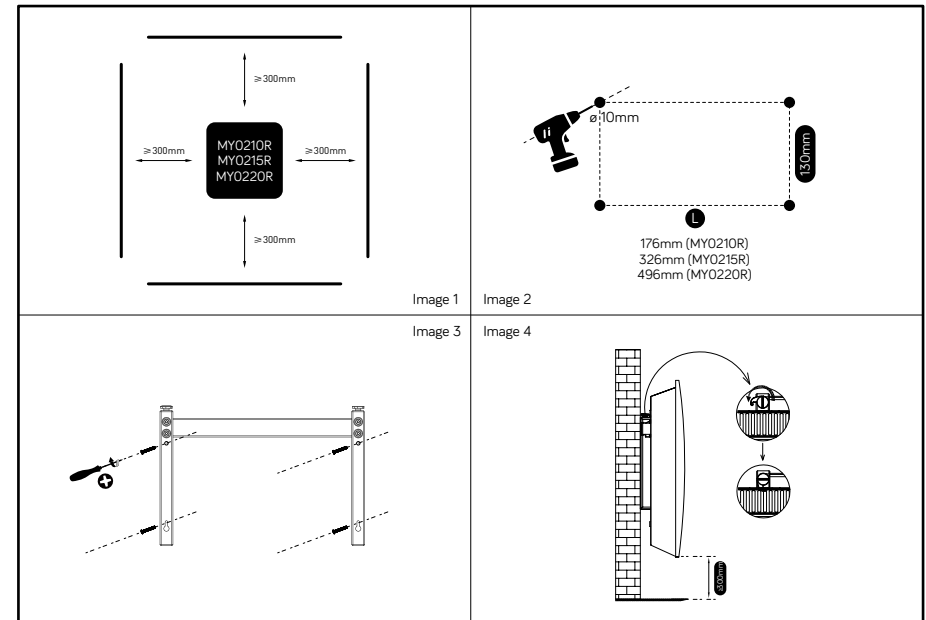

Figure 1
- Using the hanging bracket as a template, place the hanging bracket level against the wall as a guide ruler (please make sure the holes are parallel level), use a marker pen to mark the hole position. Image 2 on Figure 1 above.
- Drill holes on the wall with Ø10mm drill bit and insert the plastic wall plugs. Image 2 on Figure 1 above.
- Securely fasten the hanging bracket to the wall with the screws provided. Make sure the hanging bracket is in the correct direction. Image 3 on Figure 1 above.
- When the heater is attached to the hanging bracket, secure into place by turning the two plastic securing grips. Image 4 on Figure 1 above.